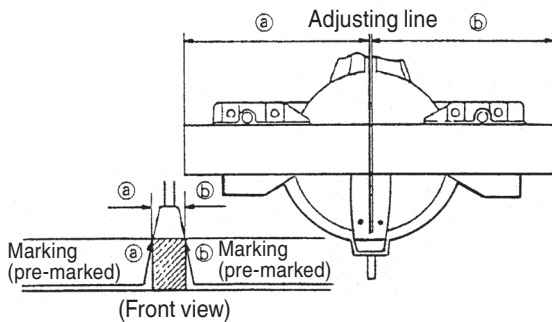

Fig. 22
- (1) As shown in Fig. 22 the width of the saw blade is the width of the cut. Therefore, slide the workpiece to the right (viewed from the operator's position) when length ㉔ is desired, or to the left when length ㉓ is desired.